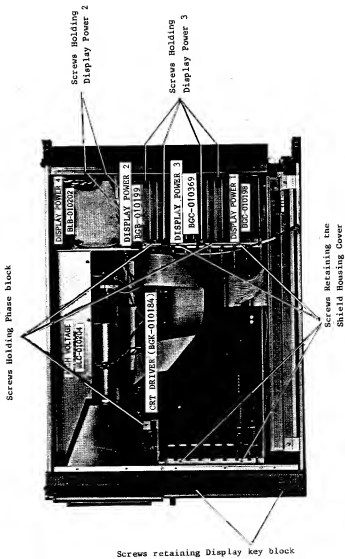

Fig. 13-1 Display section top view
Pull out the PC board assembly shown in Figure 13-1; remount it in the same slot via Extension Card as needed.
Remove the four retention screws shown in Figure 13-1; then pull out the PC board assembly; remount it in the same slot via Extension Card as needed.
Pull out the board shown in Figure 13-1. Remount it in the same slot using the Extension Card when necessary. Each connector should be plugged into the board by extension cables.
Disconnect the GP-IB and Key Control cables from the shield housing. Remove the four screws retaining the shield housing cover shown in Fig. 13-1, then remove the board holder from the pertinent board. After pulling out the pertinent board, remount it via the Extension Card as needed.
- (7) MEP-338 (IF block) (See figures 13-1, 2, 4)
The phase block is accessible by removing the top cover. Remove the three retention screws shown in Figure 13-3 and the three retention screws shown in Figure 13-1.
When removing the Display key block, first remove the belt cover, then pull out the INTENSITY, VIDEO, and TRIGGER control knobs, and finally take off the four retention screws shown in Figures 13-1 and 13-4.